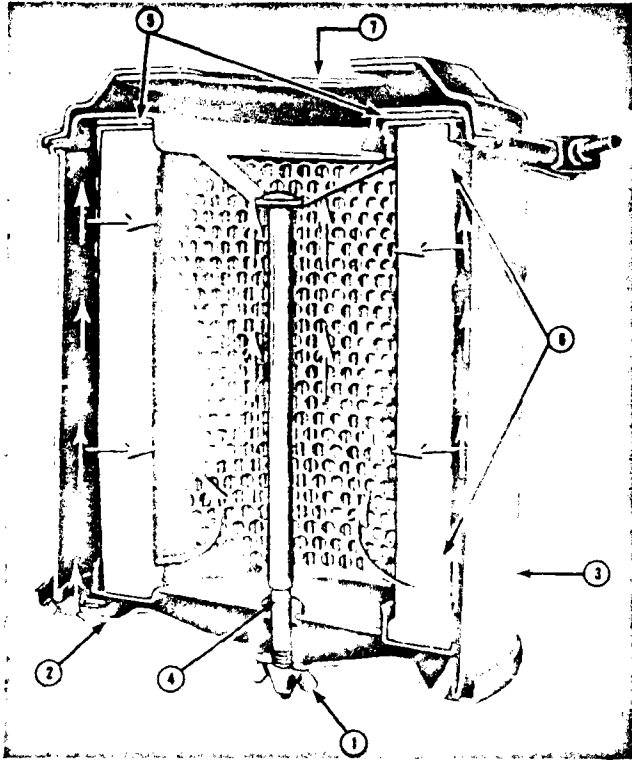

Fig. 2-9, (N11003). Air cleaner — dry type
1. Loosen the wing nut (1, Fig. 2-9) securing the